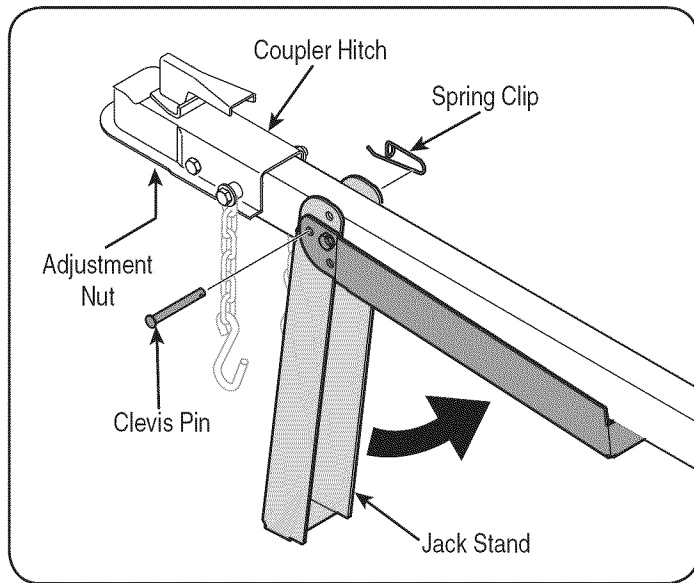

Figure 15
3. Support the tongue and pivot the jack stand up against the tongue. See Figure 15.
4. Secure the jack with the spring clip and clevis pin previously removed. See Figure 15.